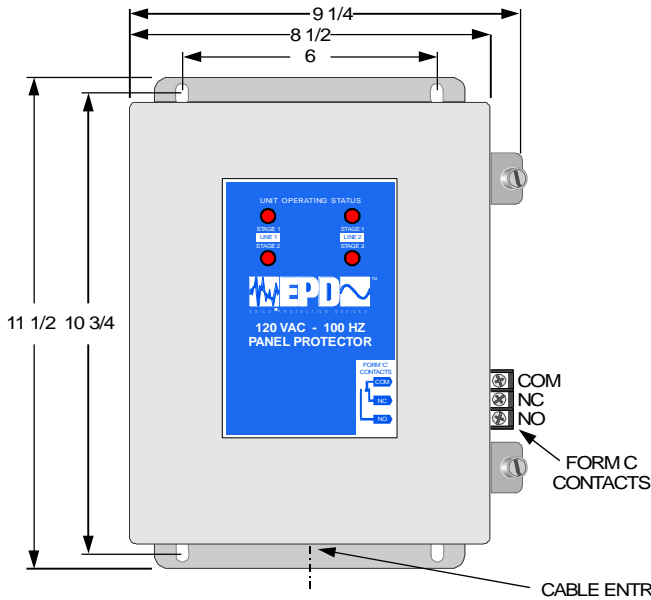

FIG. 1
- a) Drill 3/16 diameter pilot hole in the wall panel. See FIG. 1 for mounting hole configuration.
- This Surge Protector unit is provided with a set of Form 'C' contacts (FIG. 1) which can be wired to indicate when the Surge Protector has sustained damage. The contacts are rated at 2A 30Vdc, 0.6A 110Vdc, 0.6A 125VAC. By common convention, the NO (normally open) and NC (normally closed) contacts adopt these conditions when the Surge Protector is de-energized. This means that when the Surge Protector is powered on and is fully operational (both status LEDs illuminated), the NC contact will be open, and the NO contact will be closed. Should power be lost to the Surge Protector (this may include one of the fuses blowing – see Maintenance section below), or the protection circuitry fail (one or both of the status LEDs extinguish on any given line), the relay contacts will change state, such that the NC contact will be closed, and the NO contact will be open.